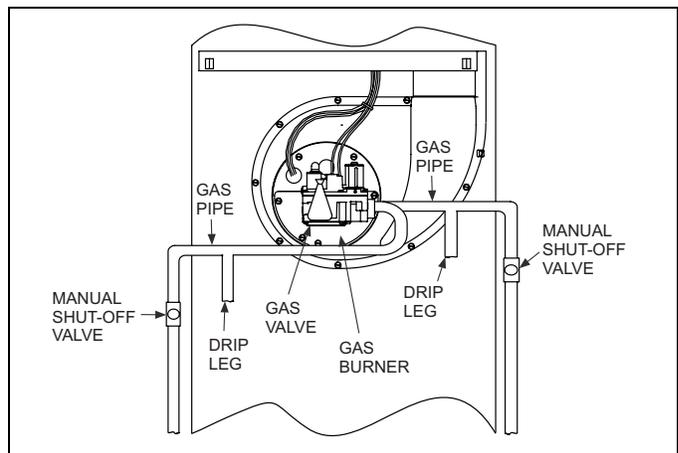

FIGURE 19: Gas Piping
*Should overheating occur, or the gas valve fail to shut off, turn the external manual gas valve in the gas supply line to the furnace to the "off" position and let the furnace cool off before shutting off the electrical power supply. Refer to Figure 19.*